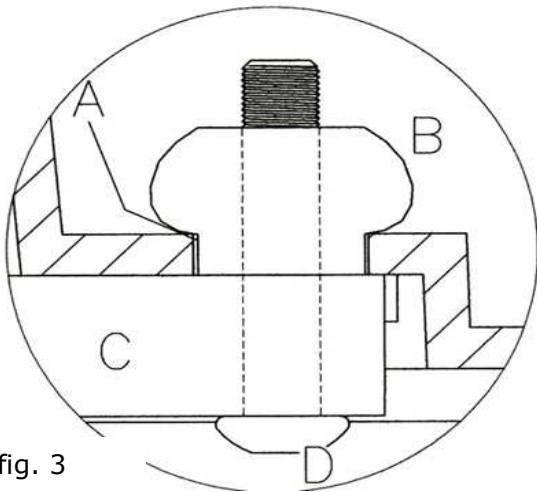

fig. 3
Further tightening of the screw (D) with a hexagonal screw driver (allen key) the rubber rivet (B) bulges, which creates a tight connection between the connection strap (C) and the TwinCover (see figure 3).